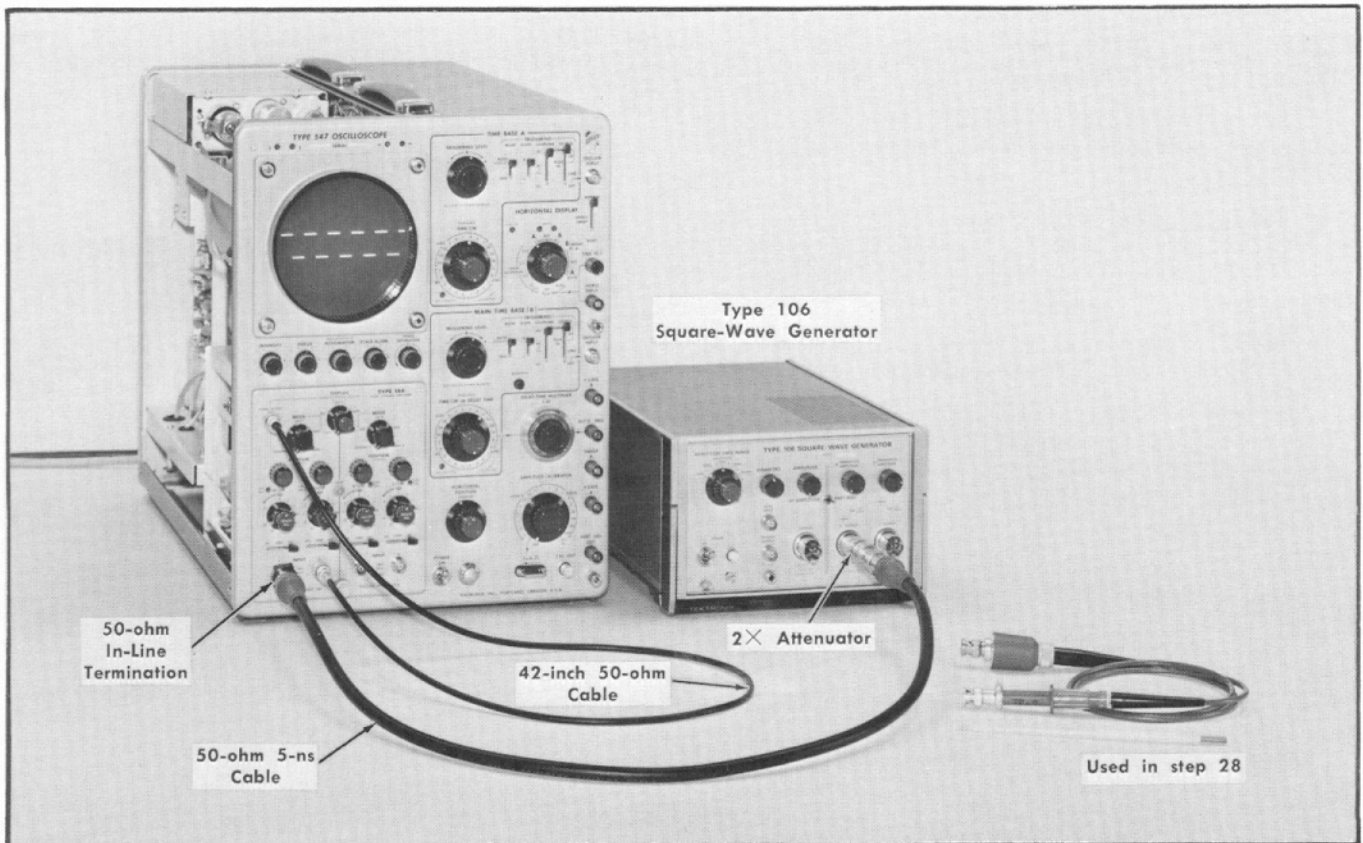

Fig. 7-34. Test equipment setup for steps 27 and 28.
- a. Test equipment required for this step is shown in Fig. 7-34.
- b. Connect the cable end of a compensated Type P6008 10X Probe to the Channel 2 Input connector. Attach a probe-to-male BNC connector adapter (item 14) to the tip of the 10X probe. Connect the probe tip with adapter to the SIGNAL OUTPUT connector. (The connections from the Type 106 Square-Wave Generator to the Type 1A4 remain the same as shown in Fig. 7-34).